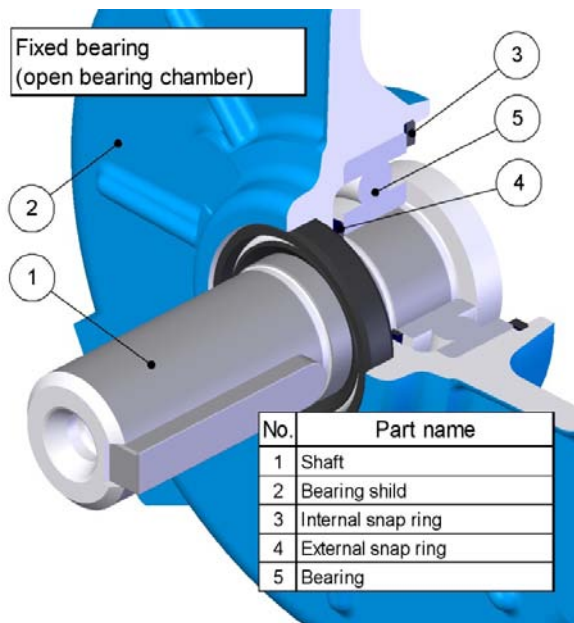

Fig. 10
- remove the spring clip in the bearing brackets (3) and rotor (4) (this also regards motors with an open bearing chamber – see fig. 10).